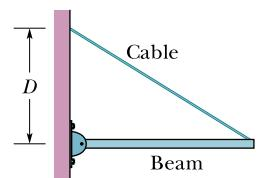

Figure 12.20 Problem 17.
**17 E** In Fig. 12.20, a uniform beam of weight 500 N and length 3.0 m is suspended horizontally. On the left it is hinged to a wall; on the right it is supported by a cable bolted to the wall at distance *D* above the beam. The least tension that will snap the cable is 1200 N. (a) What value of *D* corresponds to that tension? (b) To prevent the cable from snapping, should *D* be increased or decreased from that value?